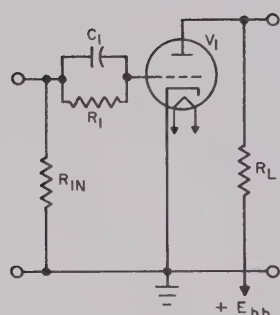

Figure 7
With the self-bias method known as **GRID-LEAK BIAS**, the dc bias is developed as a result of the leakage or discharge of a capacitor through a resistor. A typical grid-leak bias circuit arrangement is shown in Figure 7. A parallel RC combination is connected in series with the grid circuit of V_1 .
21. Explain how the circuit of Figure 7 develops the bias voltage.